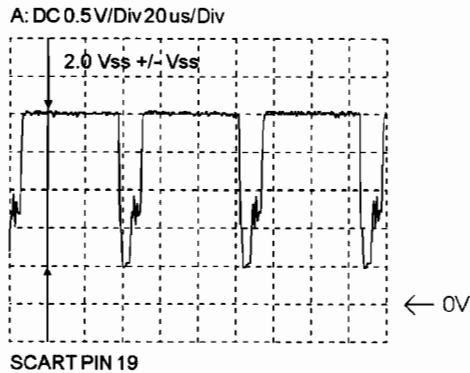

Fig. 4
(Fig. 4) (-17.4 dB relative to the luminance signal).
- Adjust resistor 3039 until the amplitude of the output signal is $2.0 V_{pp} \pm 0.1 V_{pp}$ (Fig. 4).